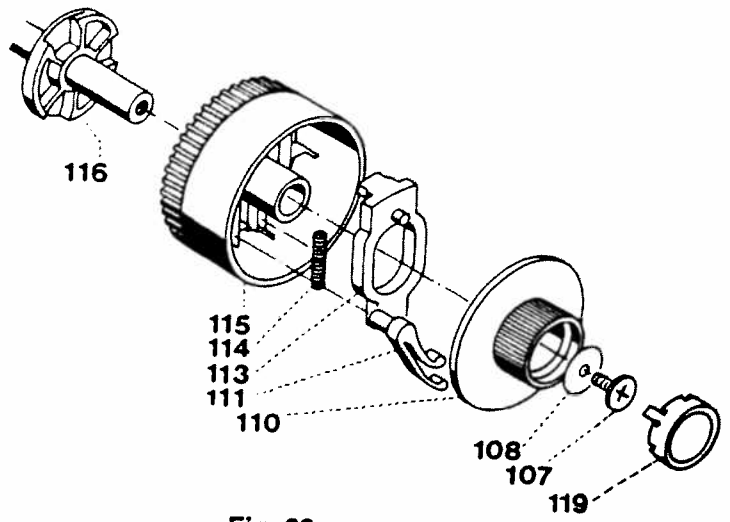

Fig. 36
- Use clearance gauge 00-880 133-01 to remove plastic cap 119 (fig. 36).